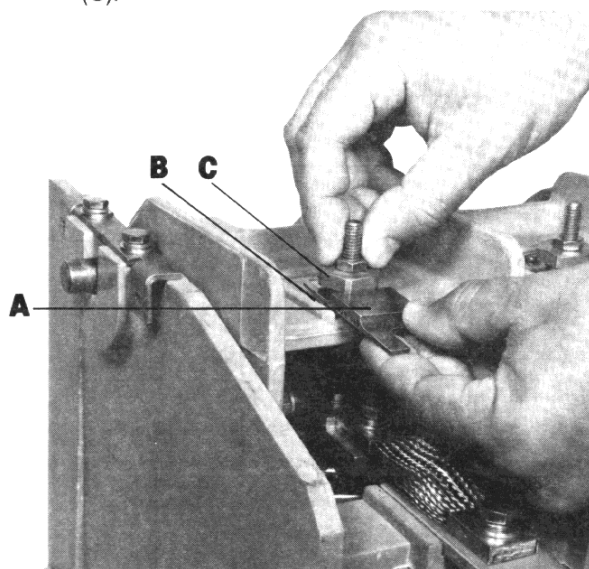

FIGURE 14
- 8) For a new bottle assembly place .075 inch gauge (A) (See Figure 14) between contactor pivot plate (B) and gap adjustment nut (C).